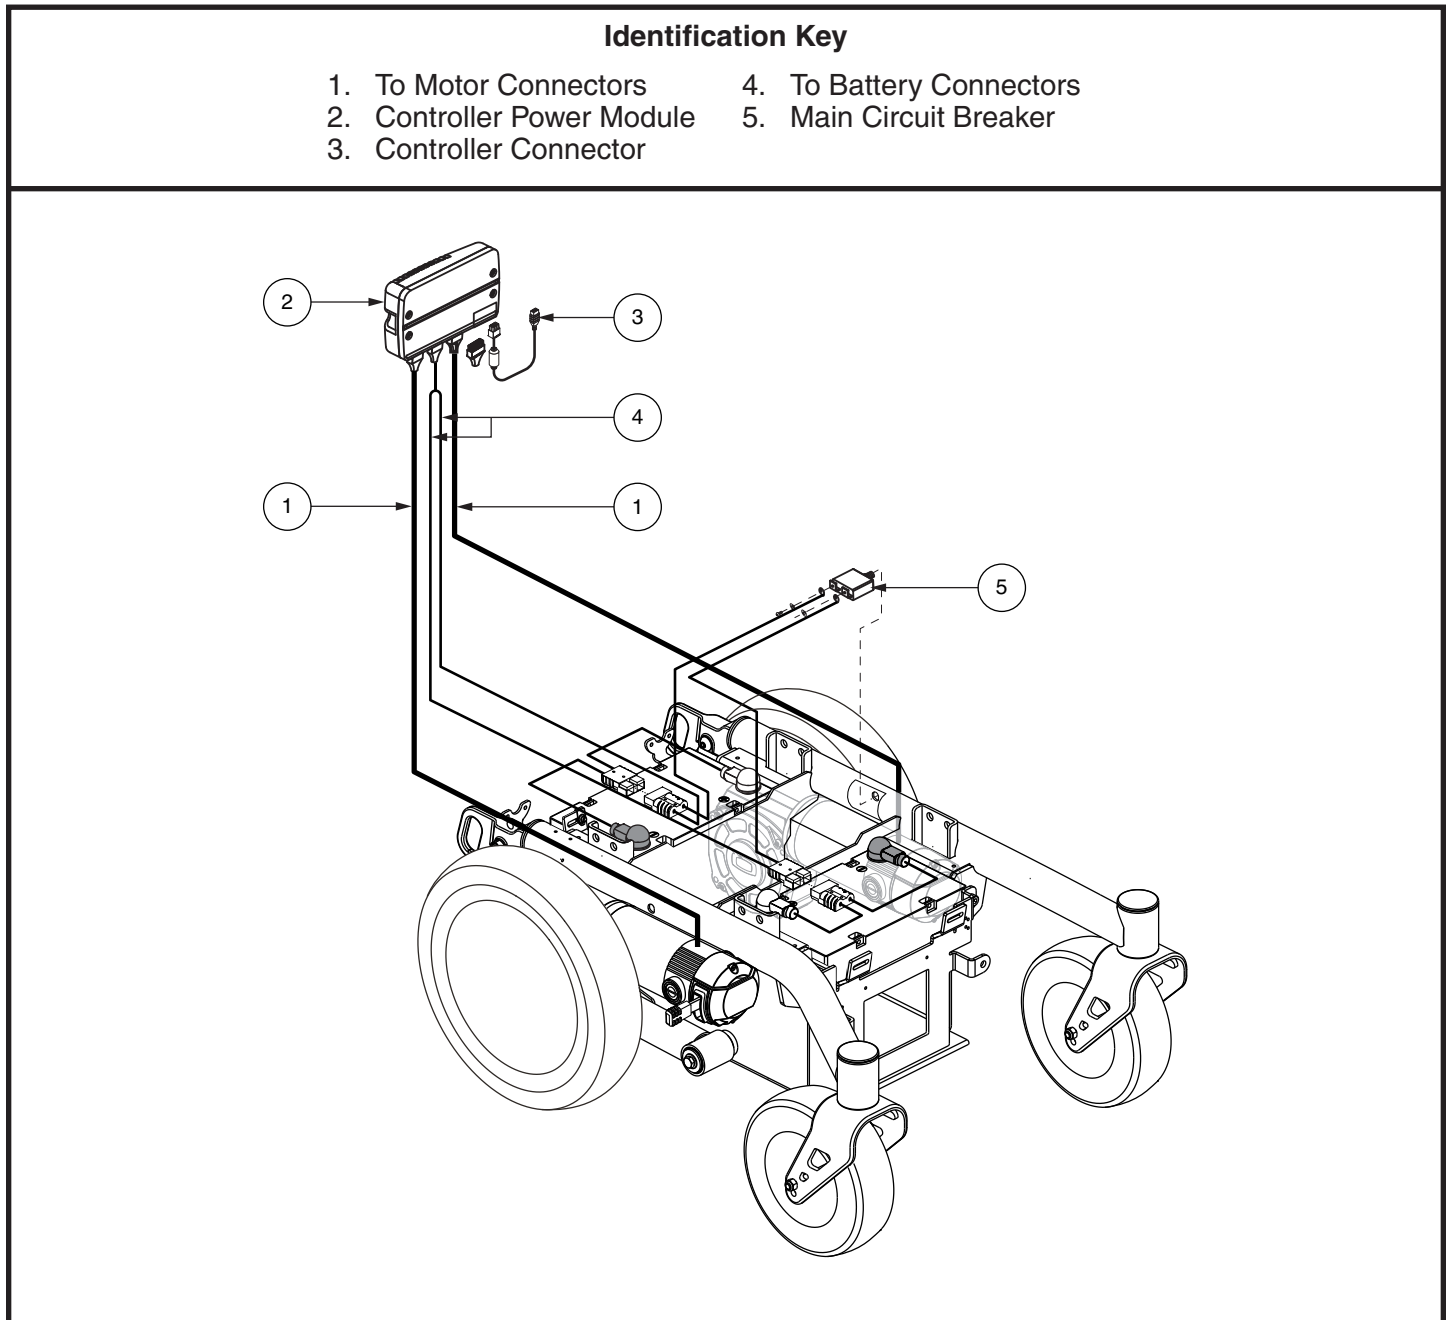

Figure 1. Aspen Electrical Components
Your power chair has two main assemblies: the seat and the power base. Typically, the seat assembly includes the armrests, seatback, and seat base. The power base assembly includes two motor/brake assemblies, two drive wheels, two caster wheels, two anti-tip wheels, two batteries, and wiring harnesses. **See Identification Key (pages 4-5) and figure 1.**
The electrical components consist of the controller assembly, the batteries, and the motors. The batteries, motors, and controller power module (if equipped) are located on the power base assembly. The controller is located on the seat assembly. Connectivity between the controller and the motors, batteries, and the battery charger is provided by one or more wiring harnesses. **See figure 1.**
5. Plug the controller connector into the rear of the power base. **See figure 1.**
3. Unplug the controller connector(s) from the power base. **See figure 1.**